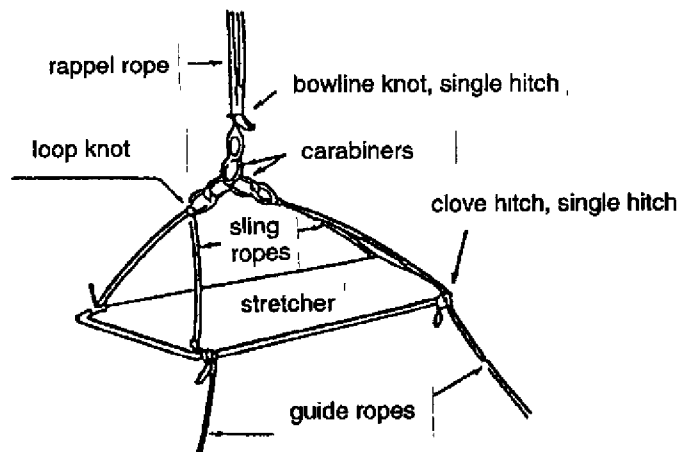

Fig. 7-6 Stretcher suspended from a single point a/ rappel rope
- e. Attach two sling ropes to the stretcher, one at the head and one at the foot using a clove hitch and single hitch at each point. Tie a loop knot in the center of each sling rope, and hold the two loops together with carabiners. (Fig. 7-6)